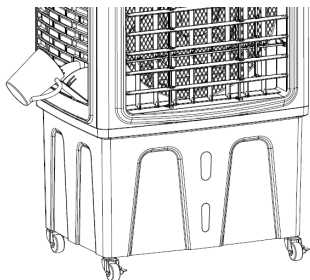
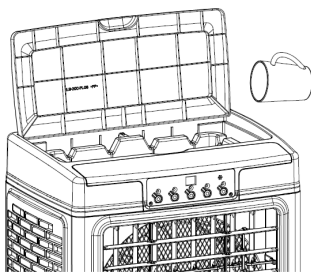

fig.1
fig.2
1. Fill the water tank so that the water level is always between the MIN and MAX marks. Water tank can be filled using both upper (fig.2) or side (fig.1) traps. Water tank can be emptied using drain valve (fig.3).